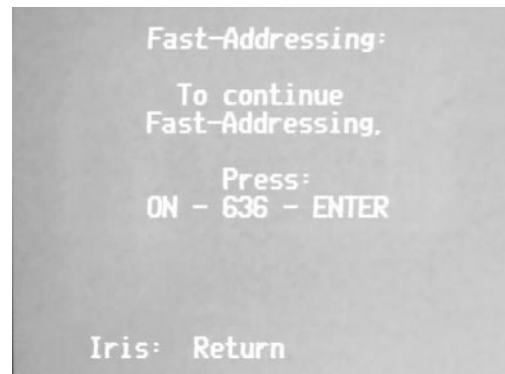

Figure FA2
3. Press **ON-26-ENTER**. The screen shown in FIGURE FA2 will be displayed. At this point, any camera whose ID does not begin with 26 will exit the *Fast Addressing* mode.